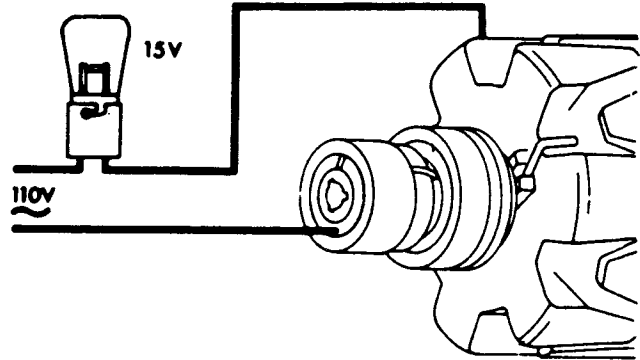

Fig O6.4
(1) Refer to Fig O6.4. Connect a 110 volt ac supply between each slip-ring and the rotor poles in turn.
(2) If the lamp lights, the coil is earthed to the rotor core and a replacement rotor and slip-ring assembly should be fitted.